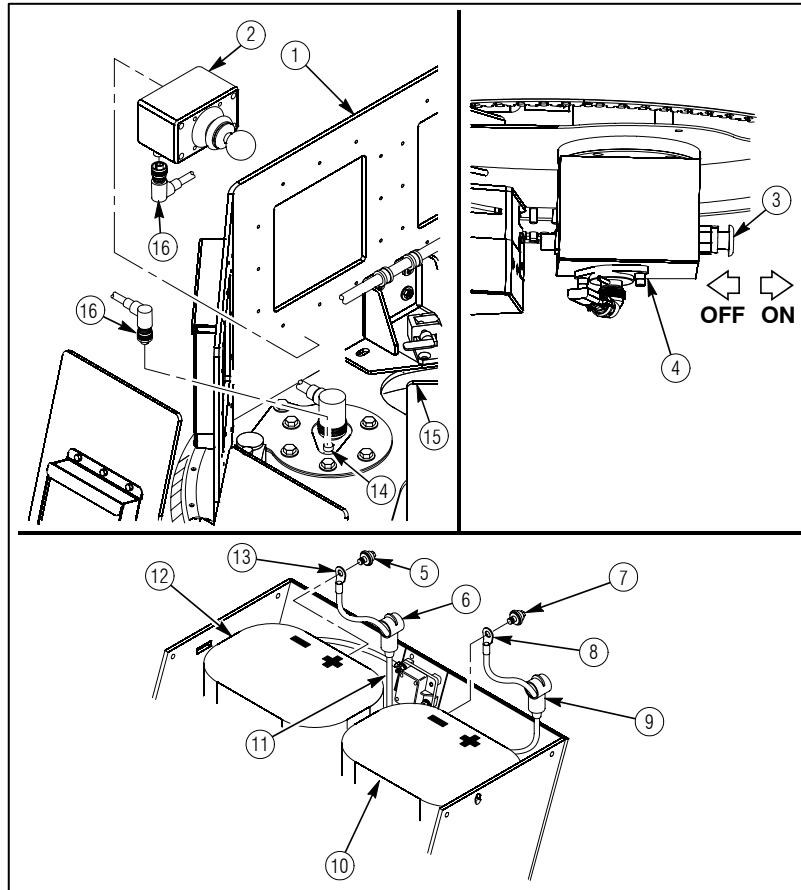

Figure 40
1. Connect 6432535-01M1 wire harness (16) to 6432528-01M1 or 6432528-200M1 joystick assembly (2) and system control box assembly connector (14) as shown in figure 40.
2. Mount joystick assembly (2) on either side panel (1 or 15) of the gunner protection kit. Refer to figure 40.
ENSURE EMERGENCY STOP SWITCH (3), ON SYSTEM CONTROL BOX ASSEMBLY (4) IS IN THE **OFF** (IN) POSITION. REFER TO FIGURE 40.
1. Connect red wire connector (13) of 6432531-01M1 wire harness (11) to POSITIVE (+) terminal of battery (12) with 6432546-01M1 battery terminal bolt (5) as shown in figure 40. Tighten battery terminal bolt (5) to 70 lb-in. (8 N·m) and slide boot (6) over connection.
2. Connect black wire connector (8) of 6432531-01M1 wire harness (11) to NEGATIVE (-) terminal of battery (10) with 6432546-01M1 battery terminal bolt (7) as shown in figure 40 (pg.37). Tighten battery terminal bolt (7) to 70 lb-in. (8 N·m) and slide boot (9) over connection.